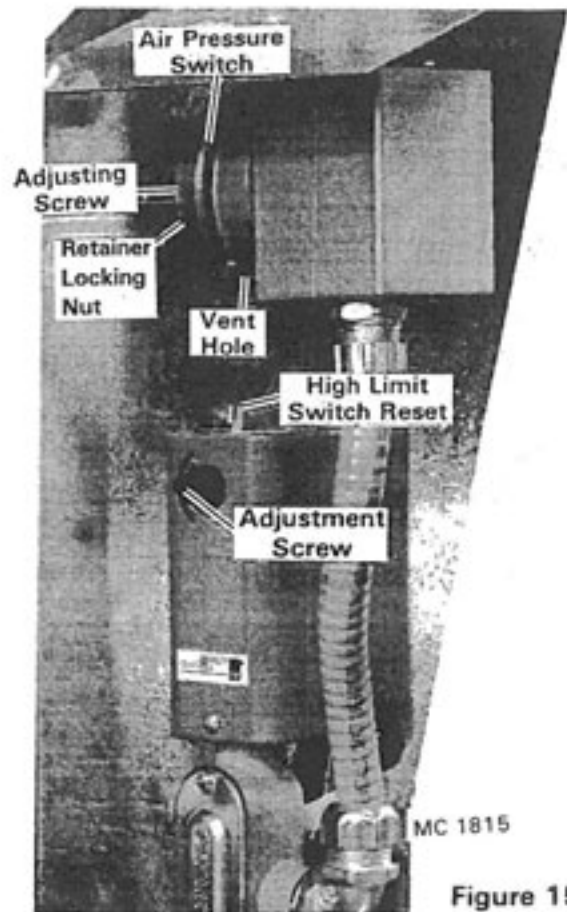
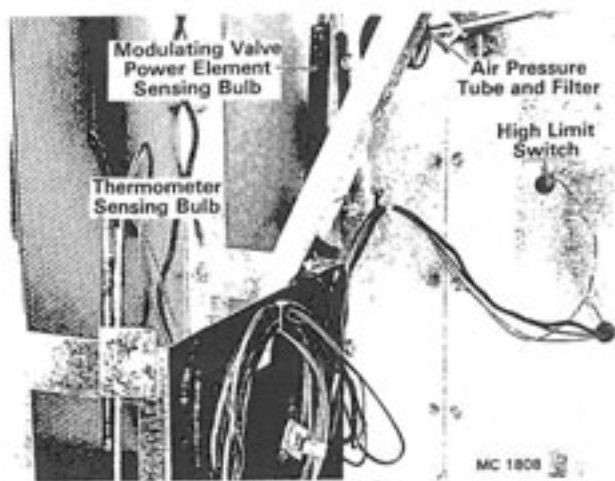

Figure 15
Figure 16
6. Flip the control circuit toggle switch ON. The control circuit ON light and high limit lights will be on. If the high limit lights are not on, push the reset button on the high limit switch, see Figure 15.
1. There is an air pressure switch in the heat chamber, see Figure 15. The air pressure switch senses the static air pressure in the heat chamber when the dryer is full of grain and the fan is running. If the static air pressure drops because of fan failure, the air pressure switch opens stopping current flow to the ignition switch. The gas solenoid valves will close and the burner will shut down.
1. Remove the plastic cap on the air pressure switch. The slotted screw is the adjusting screw. See Figure 15.
5. If all air pressure switch adjustment is used and the Air Pressure light does not come on, check to be sure the $\frac{1}{8}$ " (3.2mm) vent hole in the bottom of air switch is open. See Figure 15. Also check for an obstruction in the air pressure tube and filter. See Figure 16.
6. Flip the ignition switch OFF then ON again. The gas valve light will come ON after the (15) second delay and another trial for ignition period (5 seconds) will start.
8. If the High Limit Switch trips out, close the gas main hand valve and flip the ignition switch OFF. Push the reset button on the High Limit Switch to reset, see Figure 15. Adjust High Limit 30° to 50° above operating temperature. This will avoid nuisance shutdowns during start up.